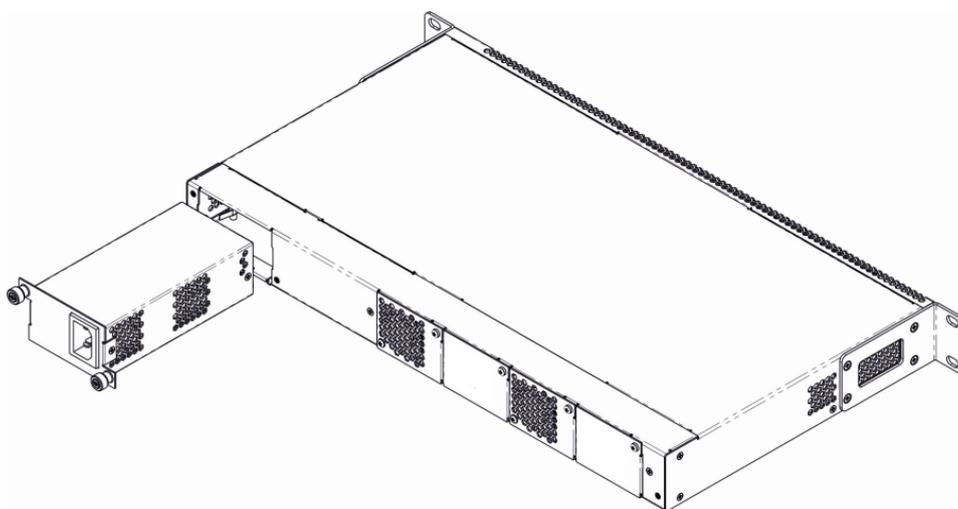
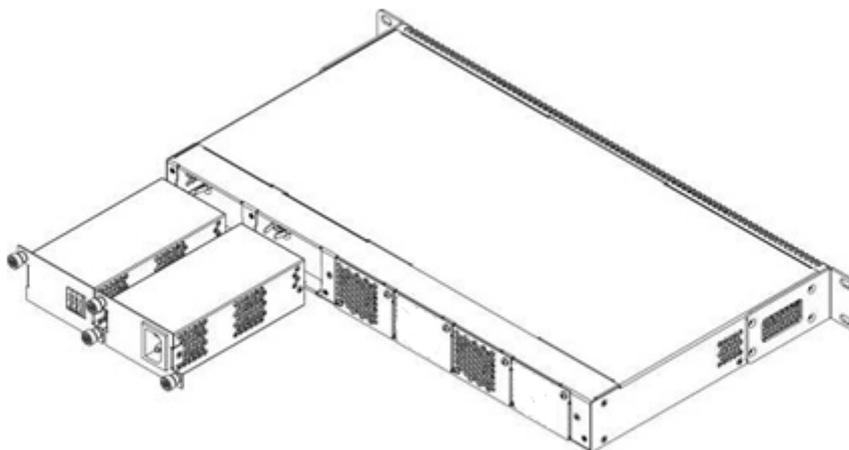

Figure 11 – Power module installation
Figure 12 – Installation of power modules for LTP Rev. C
Depending on power supply requirements, the LTP-8X, LTP-4X rev. B, and LTP-8X rev. B terminals can be supplemented with either an AC power module, 220 V, 50 Hz, or a DC power supply module, 48 V. Location of the power module is shown in Figure 11.
- **Step 1.** Install the power module into the socket shown in Fig. 11 or Fig. 12.